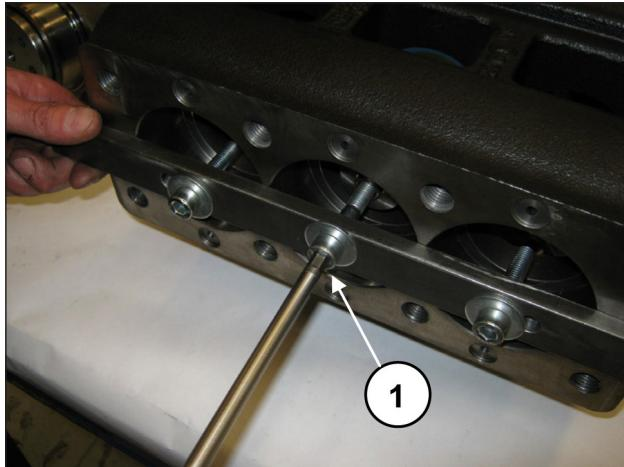
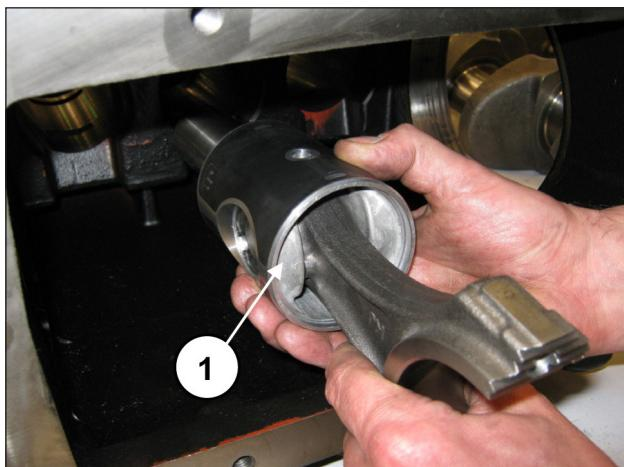

Fig. 32
Fig. 33
Unscrew the screws with tool code 27566200 to unlock the conrods (pos. ①, Fig. 32) and then extract the conrod-piston guide units from the casing rear opening (pos. ①, Fig. 33).
After having checked casing cleaning, proceed with assembly of the half conrod-piston guide unit inside casing rods (pos. ①, Fig. 33).
Block the three units with the use of special tool code 27566200 (pos. ①, Fig. 32).
Remove the tool for blocking the conrods code 27566200 (pos. ①, Fig. 32).